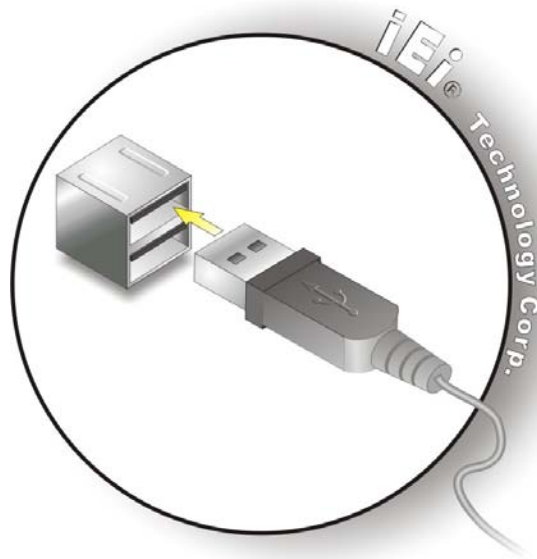

Figure 3-14: USB Device Connection
Step 2: Align the connectors. Align the USB device connector with one of the connectors on the TANK-600. See **Figure 3-14**.